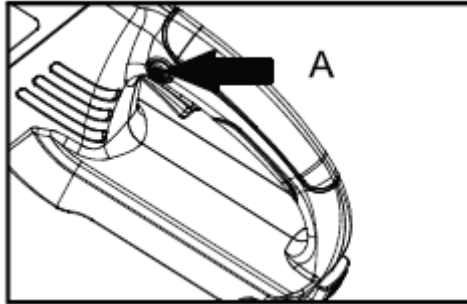

Fig. 6C
3. With your right thumb, press the safety lock button (A) while pulling the trigger. To stop the saw, release the trigger (Fig. 6C).